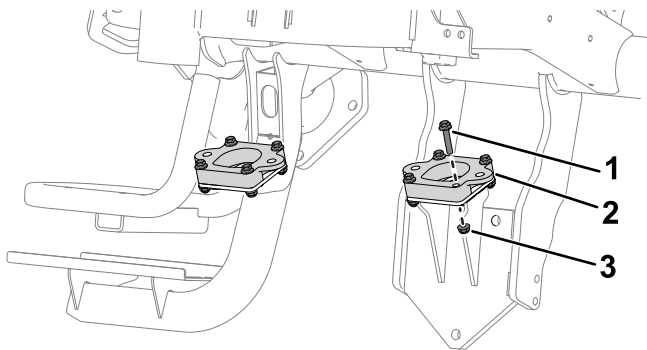
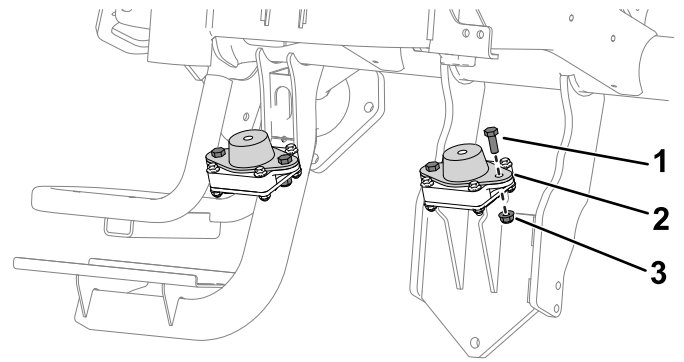
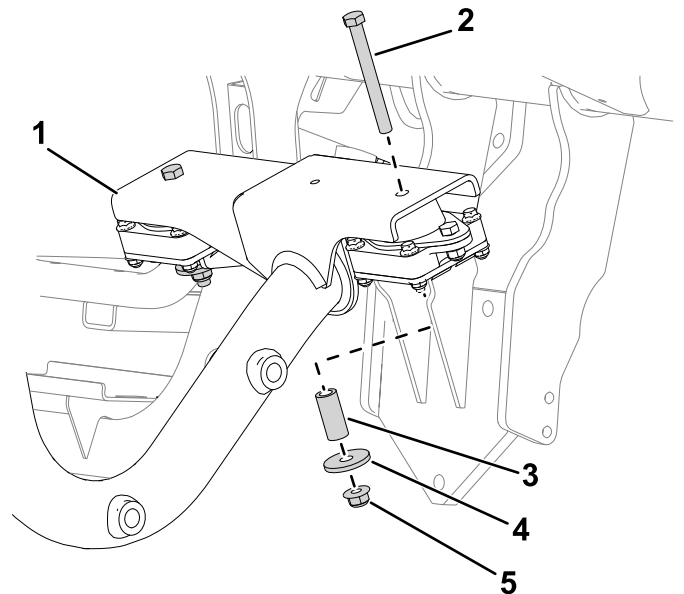

Figure 4
Figure 5
Figure 6
Note: The engine frame is removed from Figure 4 and Figure 5 for clarity. The frame is shown in Figure 6.
1. Use 4 hex-head bolts (1/4 inch) and 4 nuts (1/4 inch) to secure a motor adapter to the frame (Figure 4).
2. Use 2 hex-head bolts (5/16 inch) and 2 nuts (5/16 inch) to secure a motor mount to the motor adapter (Figure 5).
3. Use 1 hex-head bolt (3/8 inch), 1 cylinder spacers, 1 spacer, and 1 nut (3/8 inch) to secure the engine frame to the motor mount (Figure 6).